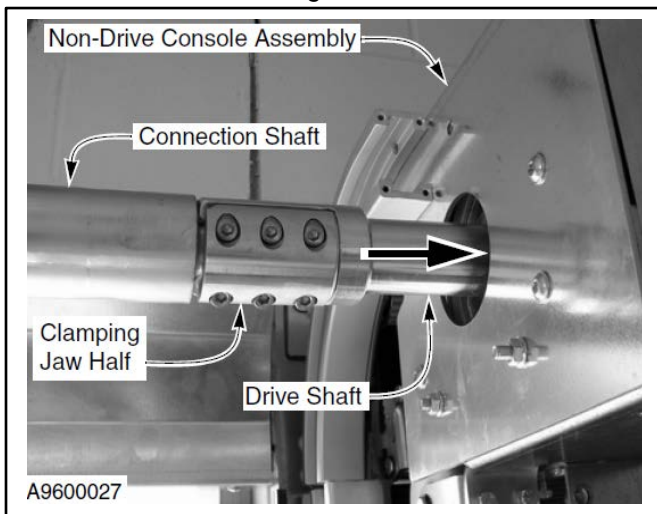

Figure 32
- Insert the opposite end of the connection shaft into the drive shaft and install the clamping jaw half. Provide an equal gap on both ends between the drive shaft and connection shaft. (See Figure 32.)